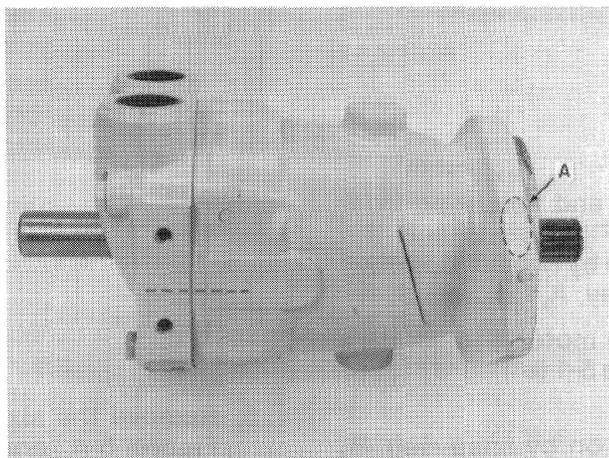

FIGURE 5-1
NOTE: Dealer adjustment requests for oil leak repairs, other repairs, or overhaul of the transmission motor must include the model number of the transmission motor and the date code. These are stamped in the flange of the motor housing, A, Figure 5-1.
3. Thoroughly clean the motor and scribe a line as shown in Figure 5-1 to insure proper reassembly.